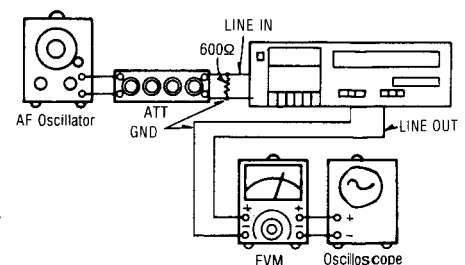

Fig. 15
1. Test equipment connection is shown in fig. 15.
8. Repeat from step (2).
1. Test equipment connection is shown fig. 15.